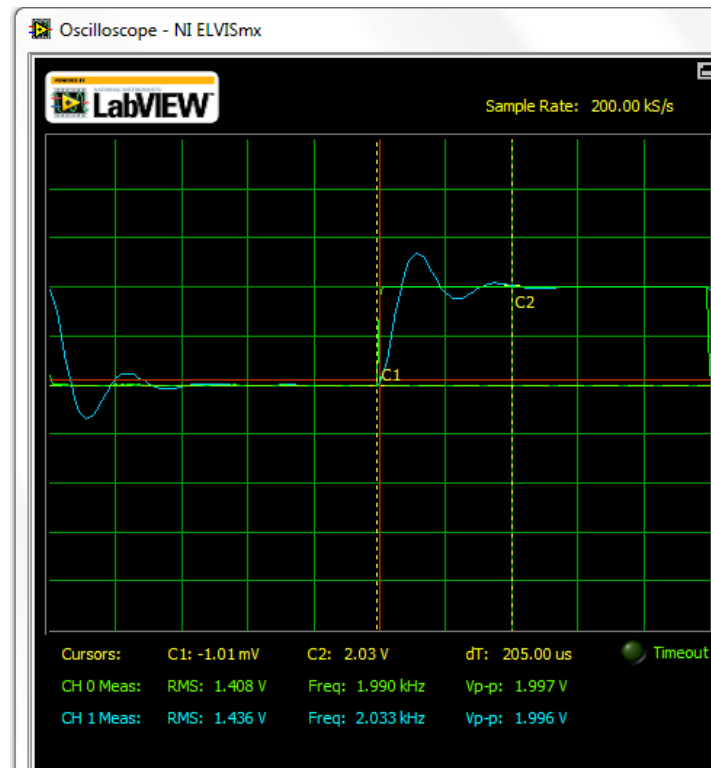

Figure 19: Open loop step response of a second order plant
7. The output is the voltage across the capacitor and the graph should look similar to Figure 19. Note that this system has a settling time of approximately **200 μs** and about a **30% overshoot**. You should include a screen shot of this oscilloscope screen in your memo.